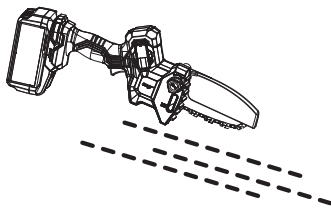

Fig. 11
- Make sure the guide bar (16) and the saw chain (15) are in place when you check the oil delivery.
- Start the product; keep it running at no load and check if the chain oil is delivered as shown in the figure (Figs. 11, 12).